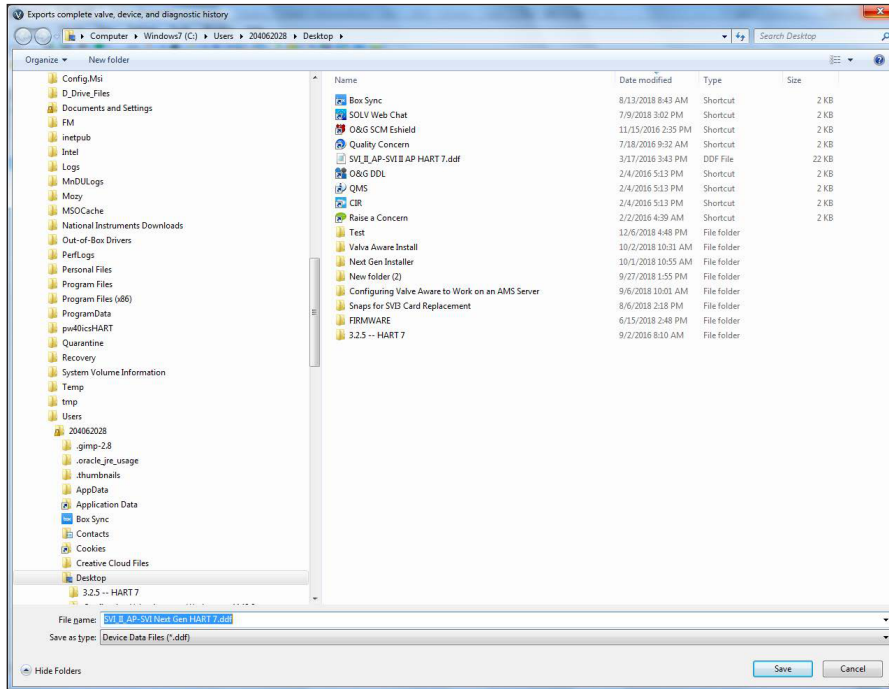

Figure 41 - Export Device Data
1. Select in the device in topology tree, right-click and select **Export Device Data** and Figure 41 appears.